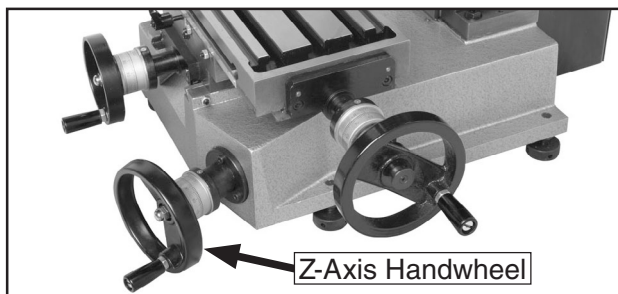

Figure 14. Z-axis control.
2. Turn the Z-axis handwheel shown in **Figure 14** to raise or lower the headstock, then lock the headstock slide lock lever.